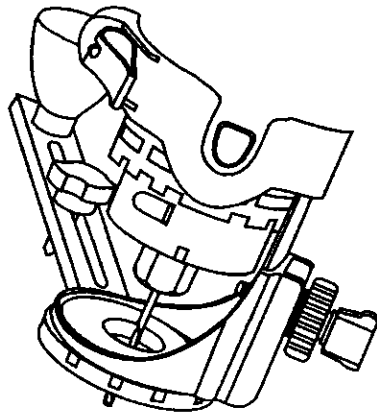

Fig. 13
- 4 Rest the edge of the sole plate on the workpiece with the bit at an angle of about 45° (see Fig 13) Insert the circle cutter pivot point into the pilot hole drilled at the center of the circle